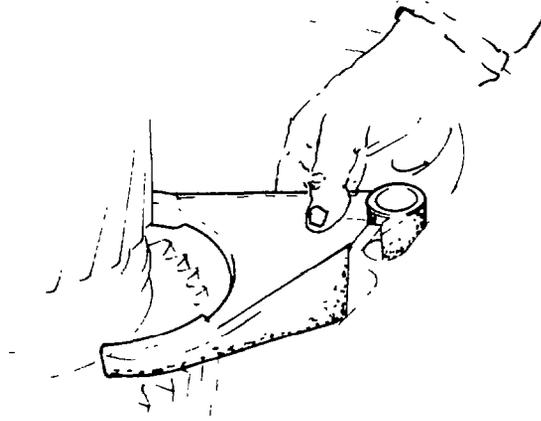

Fig. 247 — Installing Hi-Lo Range Selector Fork
- i. Engage the Hi-Lo range selector fork in the groove provided in the Hi-Lo range sliding clutch (see fig. 247).